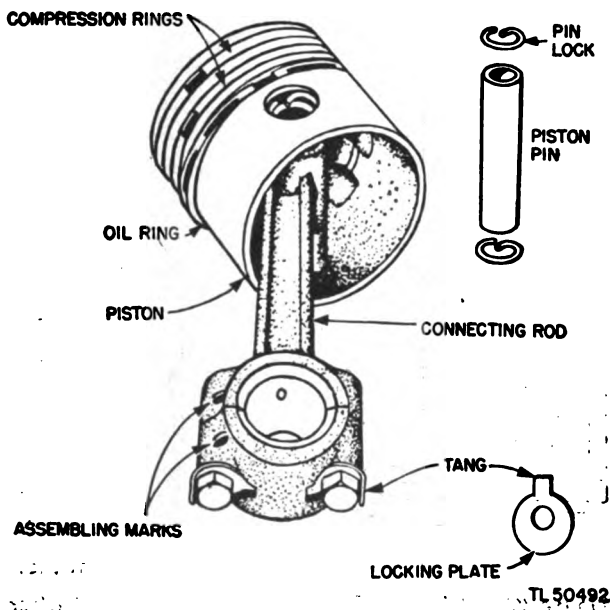

Figure 71. Piston and connecting rod assembly.
a. PISTON (fig. 71). (1) The piston is made of a special aluminum alloy which is very light in weight. The standard clearance between the piston skirt and the cylinder wall is 0.0055 to 0.007 inch. The clearance is necessary to compensate for the considerable expansion of aluminum when hot. The top and second lands of the piston are smaller than the skirt to allow for greater expansion at the piston head. When the piston is removed, be sure to thoroughly clean the carbon from the head of the piston and ring grooves. If the piston is out-of-round or scored, it should be replaced.
d. CONNECTING ROD. The connecting rod is also made of a special alloy which combines strength with light weight. When assembling the connecting rod to the crankshaft, the assembly marks on the cap and rod must be on the same side and toward the magneto side of the engine. (See fig. 71.) It is equipped with locking plates. The tank in this plate must fit in the slot and the plate must be bent against the hexagonal-head cap screws.